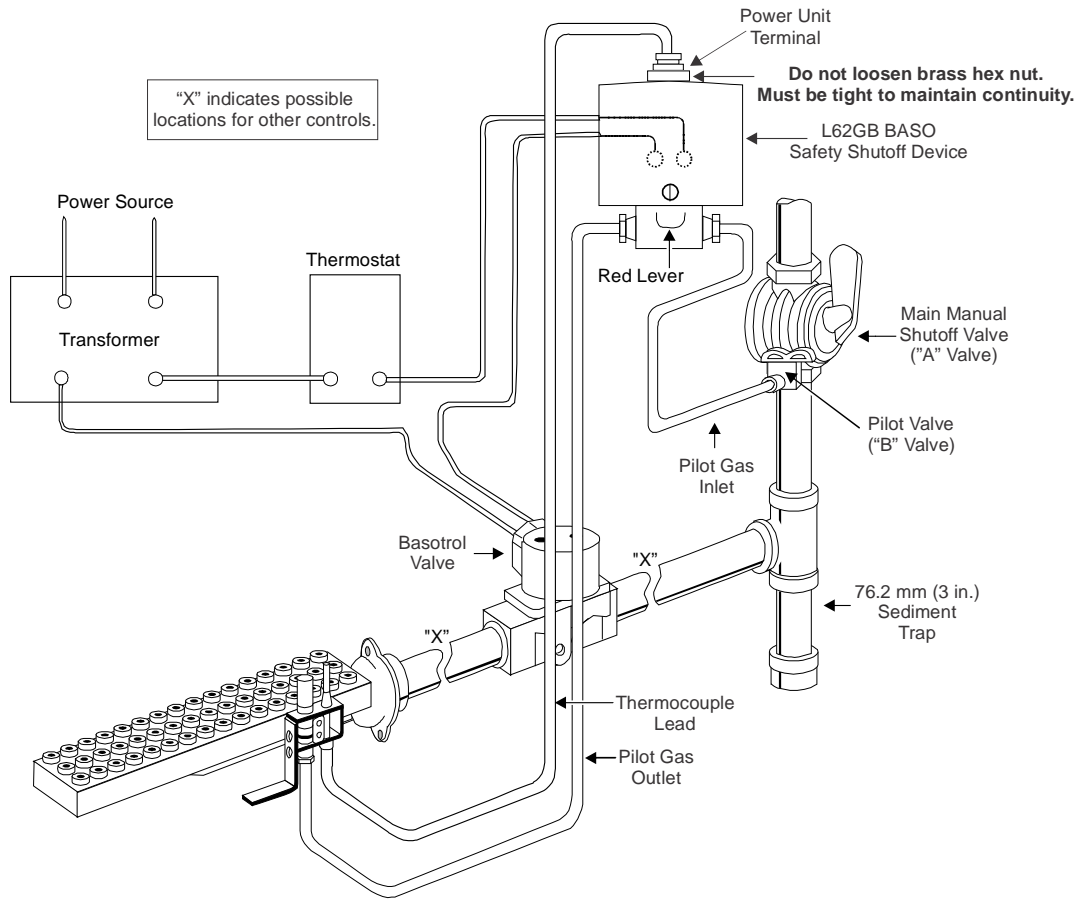

Figure 1: Typical L62GB Installation
3. Close the main manual shutoff valve (**A** valve) and the pilot valve (**B** valve [see Figure 1]) and wait at least 5 minutes for unburned gas to escape from the appliance.